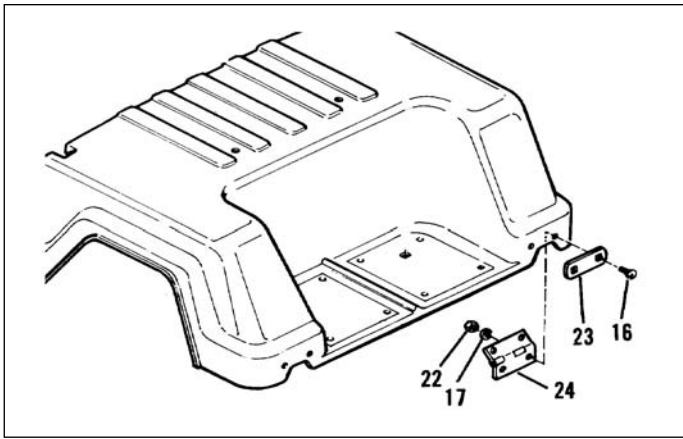

Figure 22 - Rear Body Hinge
2. Close body and remove bolts securing rear body to rear hinges See Figure 22.
2. Align rear body to hinges. Install mounting bolts from outside, through doubler plates (Figure 22, #23). Tighten hardware.
3. Remove bolts at rear of body, securing body to chassis. See Figure 22, Rear Body to Chassis Mounting.